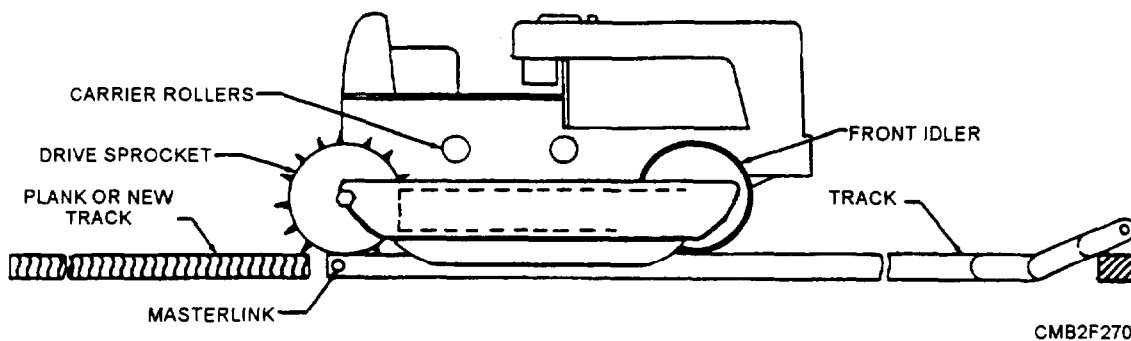

Figure 6-29.—Removing tracks.
**TRACK REMOVAL** (fig. 6-29).—Steps for the removal of the track are as follows: